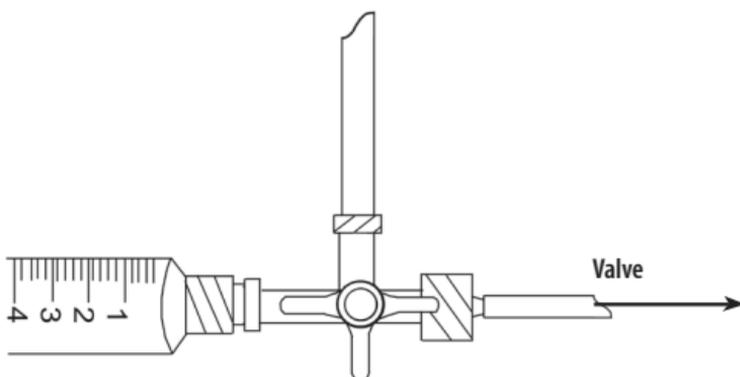

Figure A-2
5. Adjust the stopcock to connect the syringe to the valve assembly (Figure A-2).